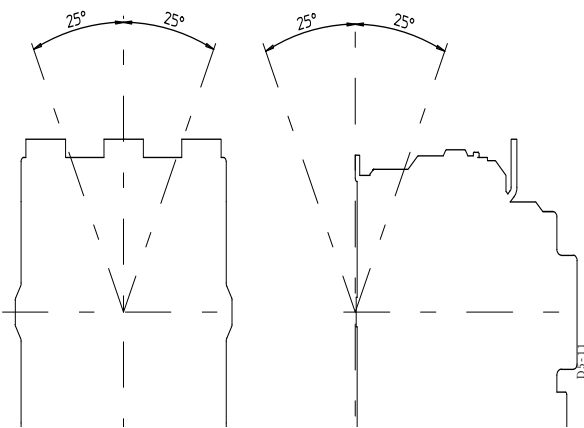

Fig. 1
- Fix on a vertical panel by 4 screws M8 or equivalent with flat and spring washers to prevent unscrewing. Screws and washers are not supplied with the contactor. **Working position is shown in figure 1.**